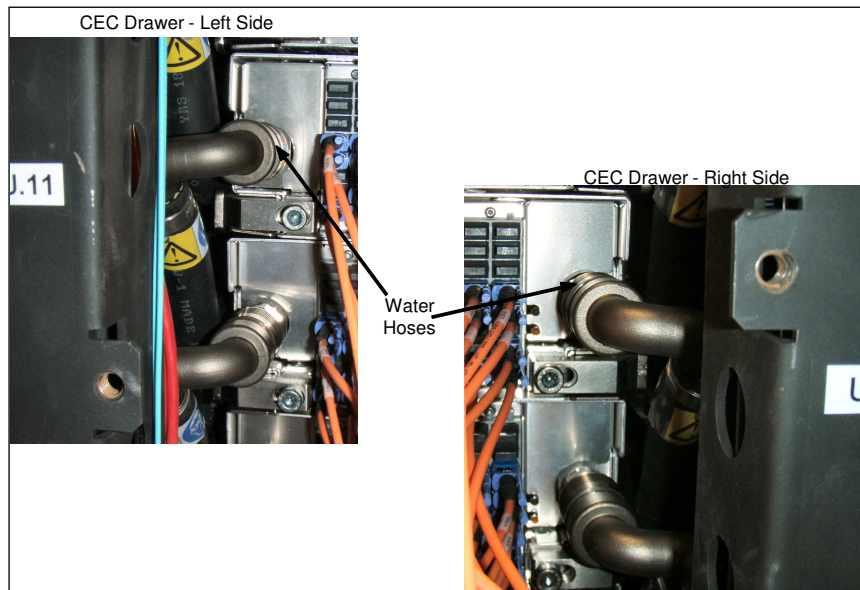

Figure 18 CEC Drawer rear water connections
STEP 30 Disconnect the two water hoses from the left and right rear(see Figure 18) of the CEC Drawer. Disconnect the hoses by pulling the retaining ring on the hose, see Figure 19.